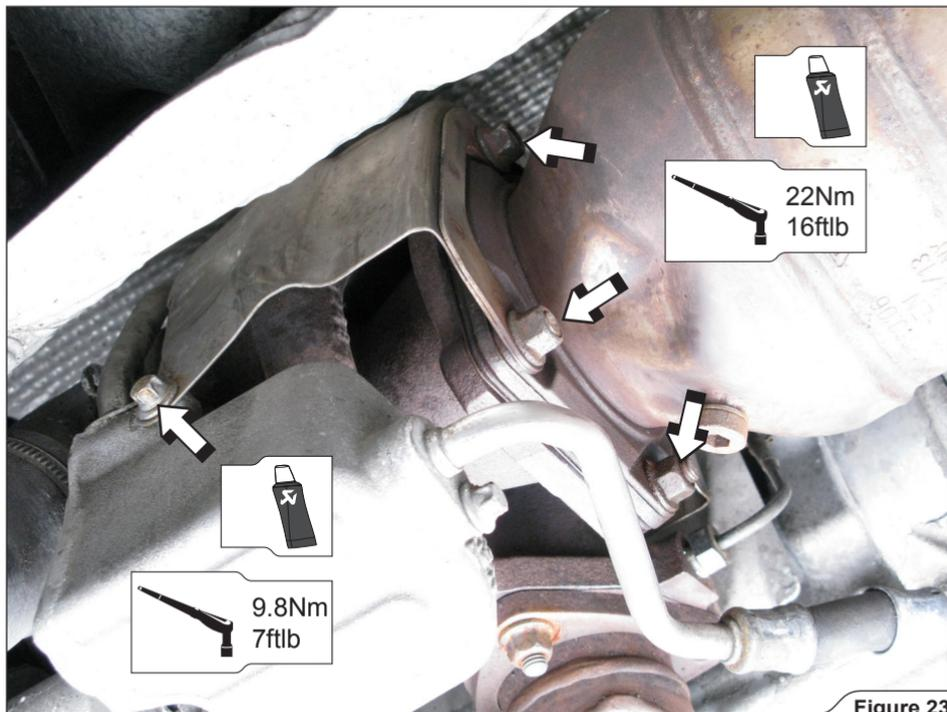

Figure 23
9. **For Slip-On only:** tighten the stock link pipes' flanges (using four stock nuts) and heatshields' stock bolts to a specified torques on both sides of the vehicle (**Figure 23**).